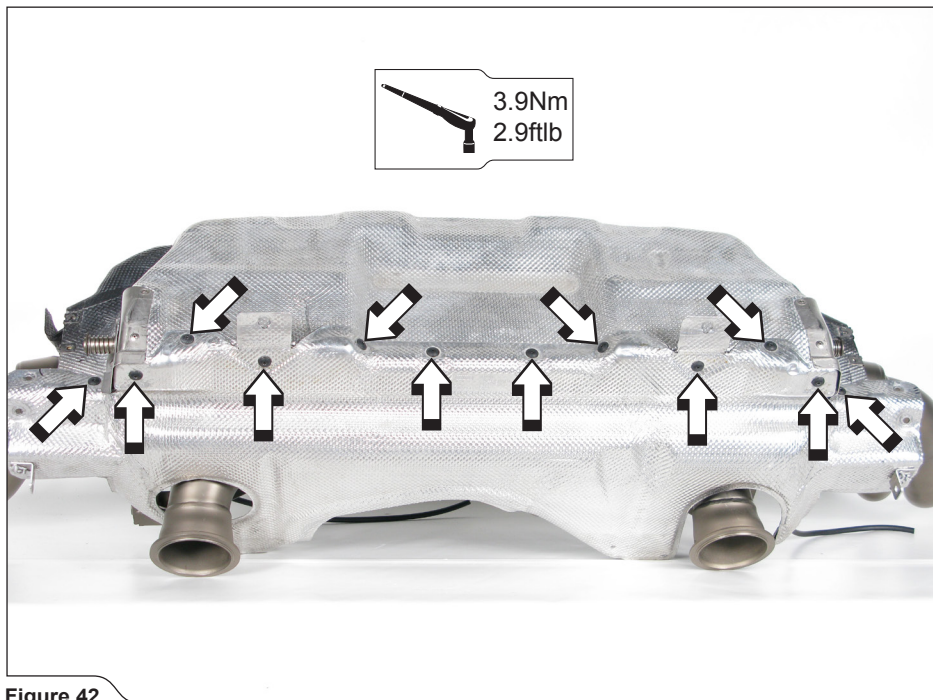

Figure 42
4. Mount the front part of the stock muffler's heat shield onto the Akrapovič muffler, using stock bolts (Figure 42).